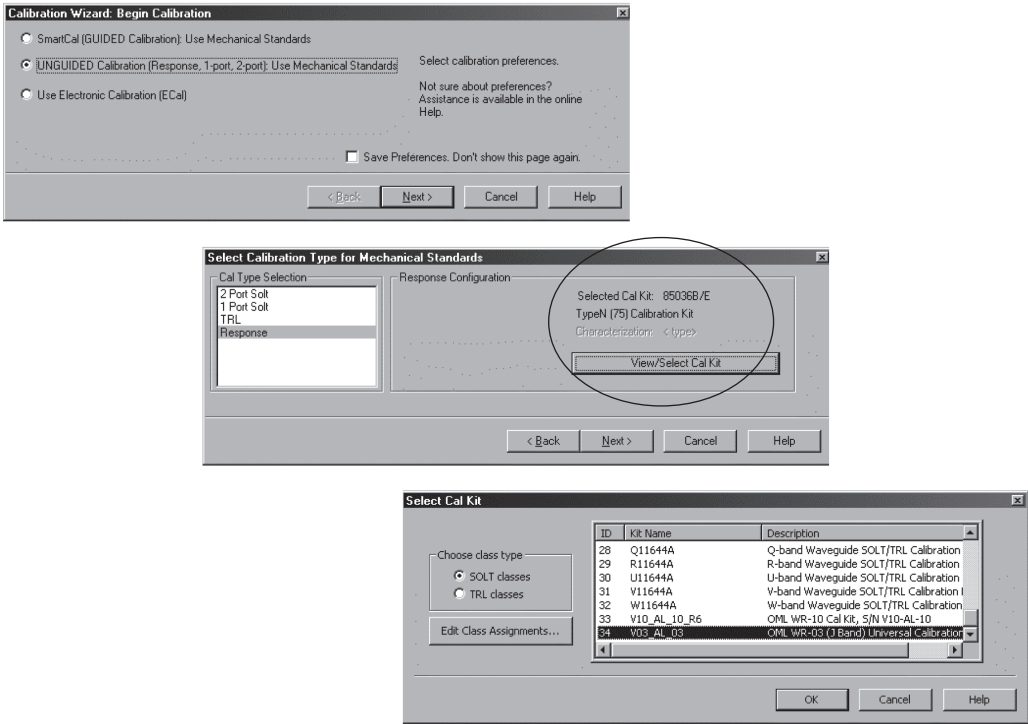

Figure 42. Select Unguided calibration, and calibration kit of choice.
- 2. Select **UNGUIDED Calibration**, then click **Next>** (Figure 42, top)
- 3. For Unguided calibration, the user must select the calibration kit because the default (or the kit last used) is often not what you want. Click on **View/Select Cal Kit** (Figure 42, middle) and then use the scroll bar to select the calibration kit of choice (Figure 42, bottom). Click **OK**.